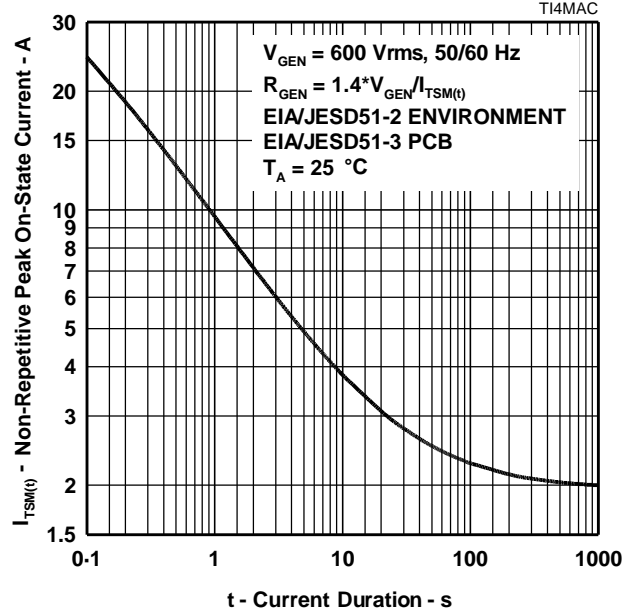

Figure 11.
10. EIA/JESD51-2 environment and EIA/JESD51-3 PCB with standard footprint dimensions connected with 5 A rated printed wiring track widths. See Figure 11 for the current ratings at other durations. Derate current values at  $-0.61\text{ %/°C}$  for ambient temperatures above  $25\text{ °C}$ .